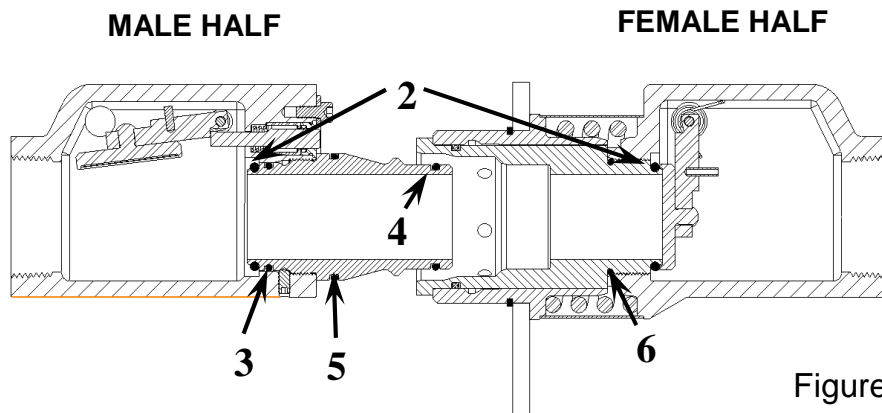

Figure 1
To Replace O-Rings ②, ③ & ④ on the Male Half (See FIGURE 1 for item numbers.)
4. Lubricate the new O-Rings & Quad Ring with a non-petroleum based lubricant and replace them as designated in Figure 1.
To Replace O-Rings ② & ⑥ on the Female Half (See FIGURE 1 for item numbers.)
5. Lubricate the new O-Rings with a non-petroleum based lubricant and replace the O-Rings as designated in Figure 1.
To Replace O-Rings ② & ③ on the Female Half (See FIGURE 1 for item numbers.)